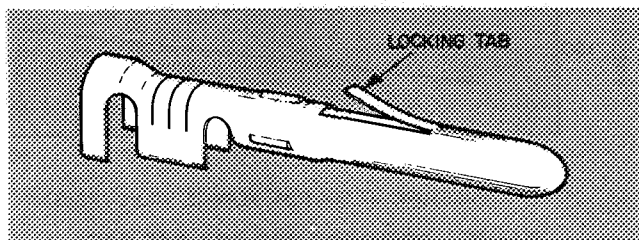

Fig. 6 – Pin Locking Tab
4. Pins on plug 1 can be slipped out of plug by pushing in on pin locking tab, Fig. 6.
3. Disconnect plug 1 from receptacle 1 at control box (refer to Service Door, page 2). *If necessary*, remove fan motor leads from plug 1 – pins attached to leads can be slipped out of plug by pushing in on pin locking tab (Fig. 6). Remove six screws holding fan motor orifice assembly in place and lift assembly from unit.
3. Disconnect plug 1 from receptacle 1 at control box (refer to Service Door, page 2). Remove fan motor leads from plug 1. Pins attached to leads can be slipped out of plug by pushing in on pin locking tab (Fig. 6).